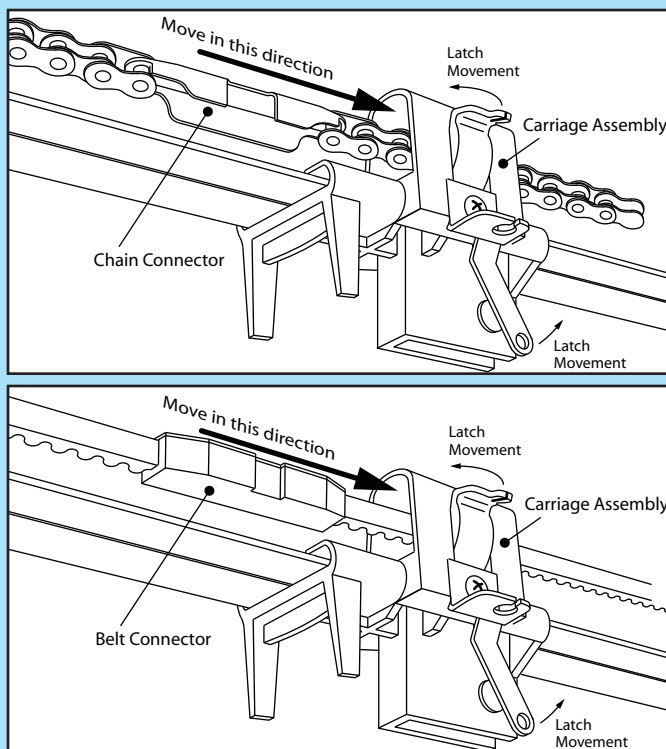

FIG. 6-2 Engage Chain/Belt Connector to Carriage.
1. Press and hold the "Close Travel Limit"  button until the chain or belt connector advances and engages to the Carriage Assembly (**Fig. 6-2**).